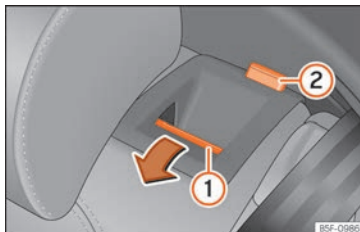

Fig. 123 Rear seat: folding the backrest.
- Pull the unlock button »» Fig. 123 ① forward and lift the backrest at the same time. The rear seat backrest is not engaged when the red marking of the button ② is visible.